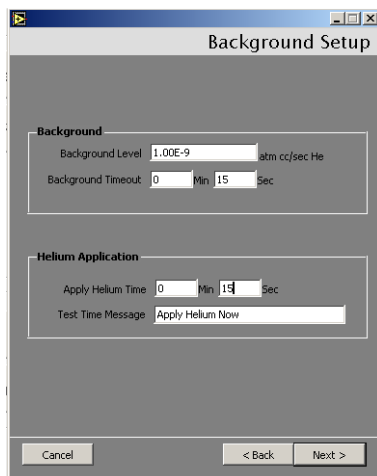

Figure 2-23 Background Setup
13. Click **Next** and Figure 2-23 appears.